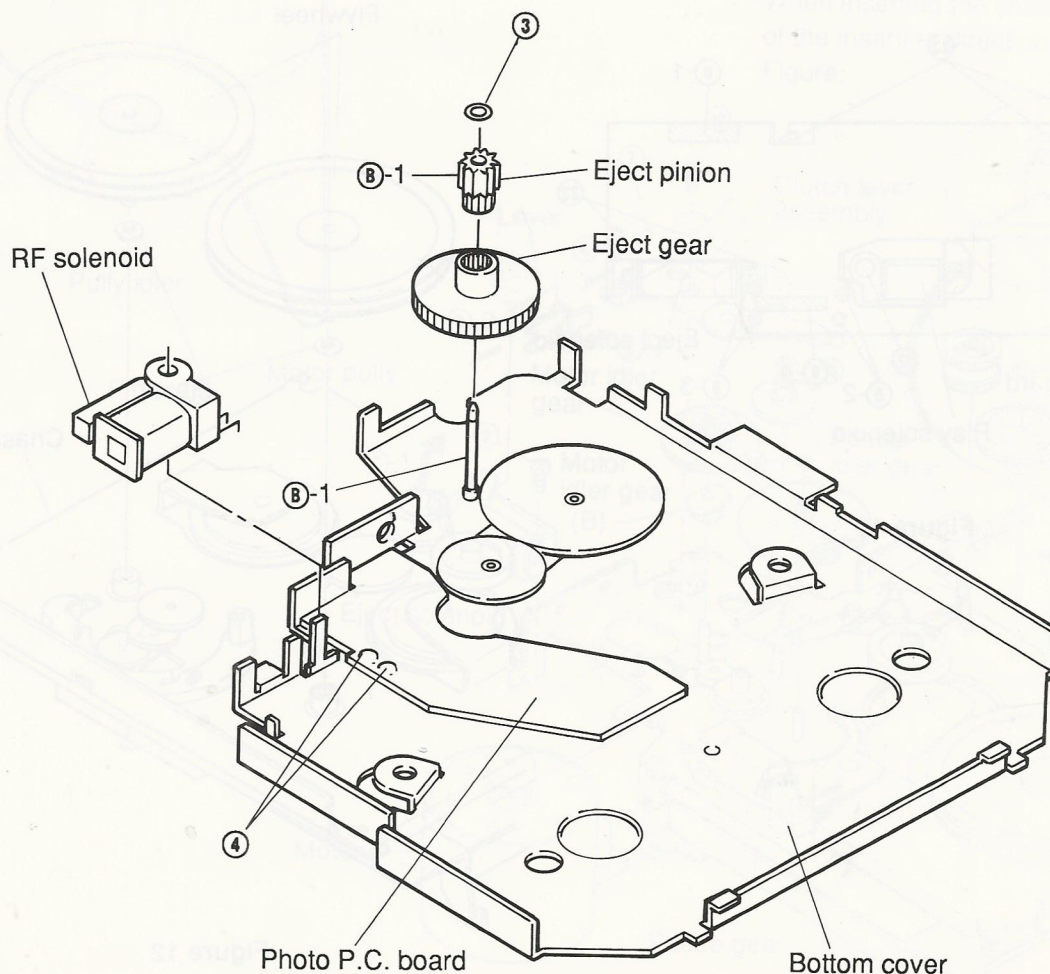

Figure 6
- (1) Remove M1.2 lock washer ③ as shown in Figure 6.
- (2) Pull the eject pinion out of the eject gear and remove the eject gear as shown in Figure 6.
- (3) Apply the molykote E paste to the section B-1, and mount the eject gear following the removal steps in the reverse order. After replacement is finished, make sure that the gear rotates smoothly. (Refer to Figure 6.)
- (1) Remove two solders ④ and remove the RF solenoid from the bottom cover by pulling it up as shown in Figure 6.
- (2) Replace the solenoid with a new one, and remount it following the removal steps in the reverse order as shown in Figure 6.